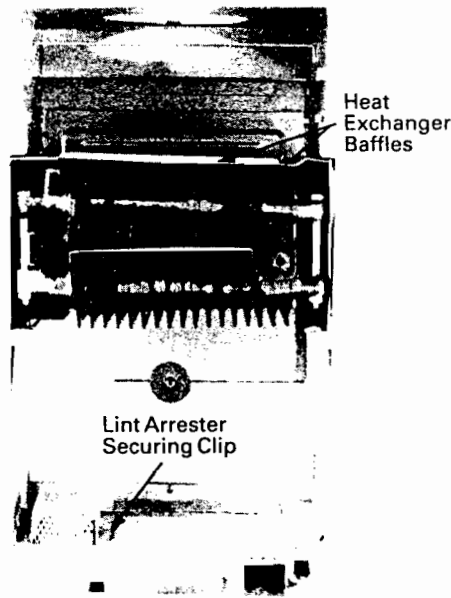
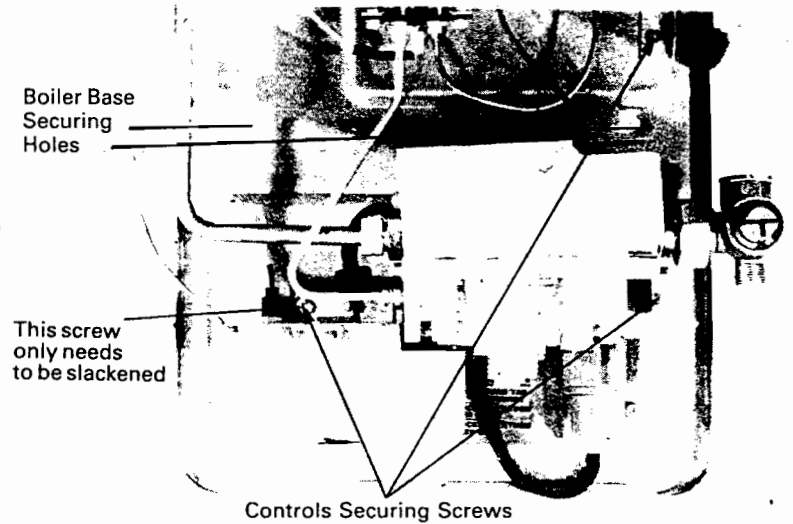

Fig. 17. Combustion Chamber
Fig. 16. Securing Screws
8. Remove the burner and controls complete. (three screws) (Fig. 16) and remove the clip securing the lint arrester to the base of the appliance (Fig. 17).
9. Slide out the heat exchanger baffles (Fig. 17).
- 1in diameter x 2½in long bristle brush.Brush out the bottom of the combustion box and then replace the insulation panels and the heat exchanger baffles. (Fig. 17).